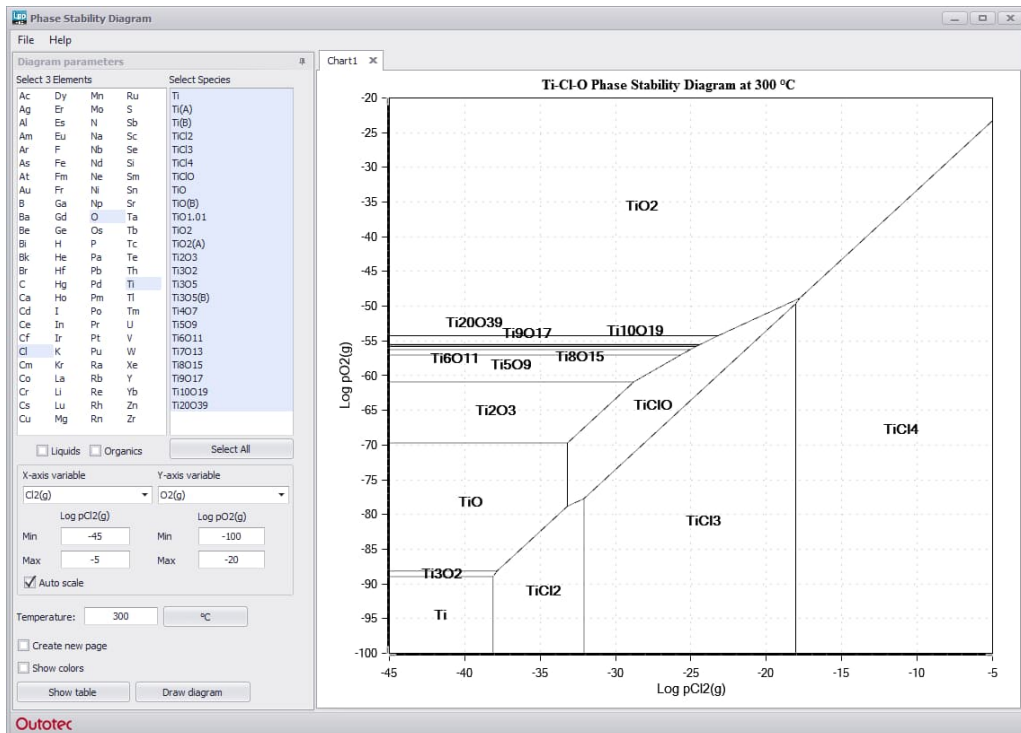

Fig. 5. Phase Stability Diagram of the Ti - Cl - O system at 300 °C with auto scale axis.
2. You can edit the format of the labels and lines by double-clicking the label, see **Fig. 5**.